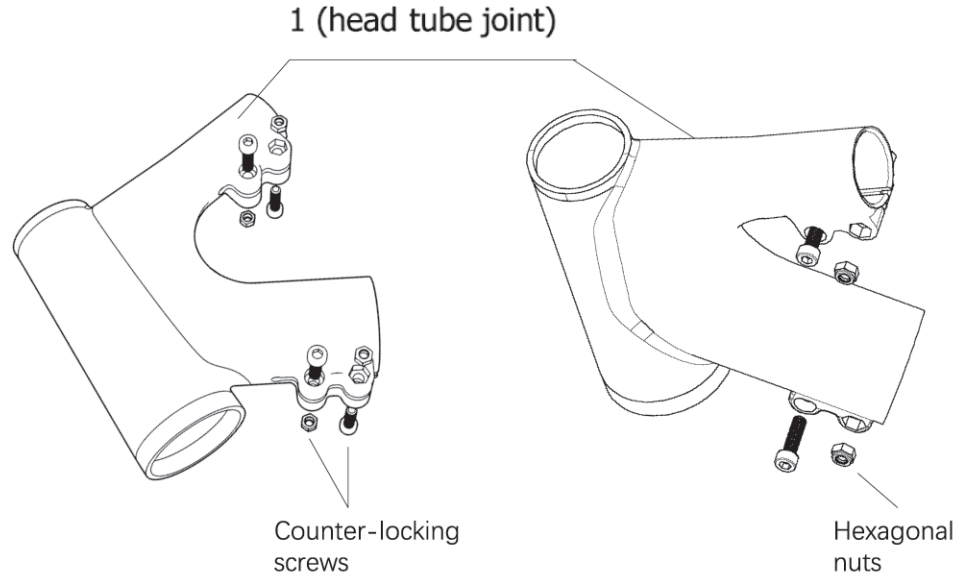

Figure 0.
4. Please carefully observe the installation directions of the pre-installation locking screws on Part 1, Part 4, and Part 5. If they fall out during installation, please reinstall them in the direction shown in Figure 0. Notice that the bevel of the hexagonal nuts faces outward, as shown in Figure 0.